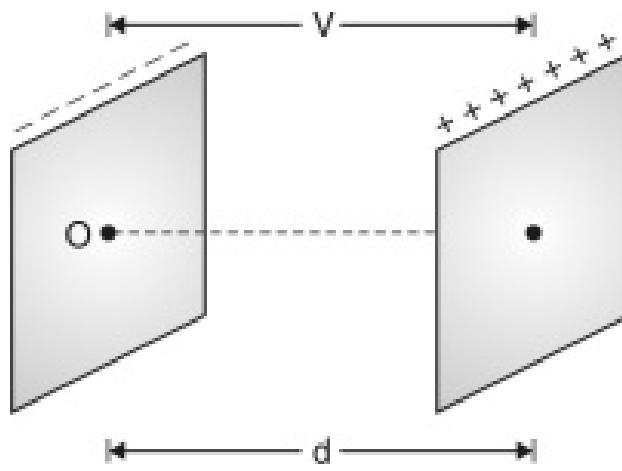

Fig. 7.1.1
arrangement shown in Fig. 7.1.1 we can derive the following.
- In the Fig. 7.1.1 two plates are separated by spacing ‘d’ and potential difference V. The plate on RHS is positively charged.